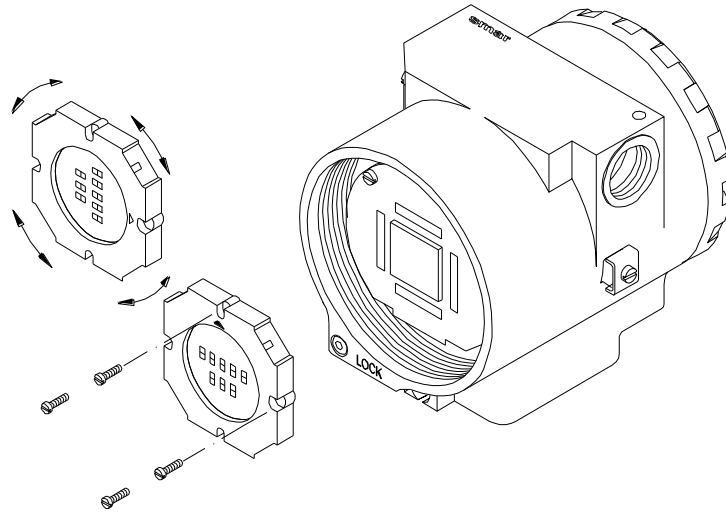

Figure 5.2 – Four Possible Positions of the Display
- Put input board (9) into housing (11).
- Anchor input board with its screws (8).
- Put main board (6) into the housing, ensuring all inter connecting pins are connected.
- Anchor main board with their screws (5).
- Put display (4) into the housing, observing the four mounting positions (see Figure 5.2) "▲" symbol should point in the direction desired as UP.
- Anchor display with their screws (3).
- Fit the cover (1) and lock it using the locking screw (10).